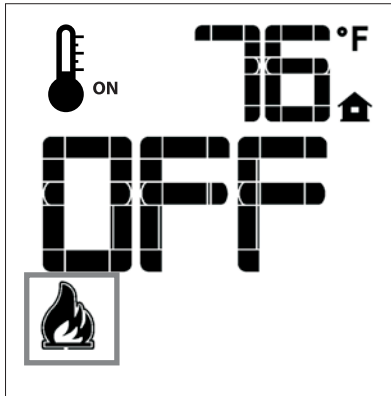

Figure 64
The Proflame GTM has six (6) flame levels. With the system on, and the flame level at the maximum in the fireplace, pressing the Down Arrow Button once will reduce the flame height by one step until the flame is turned off. The Up Arrow Button will increase the flame height each time it is pressed. If the Up Arrow Button is pressed while the system is on but the flame is off, the flame will come on in the high position (**Figure 64 - 69**). A single “beep” will confirm reception of the command.